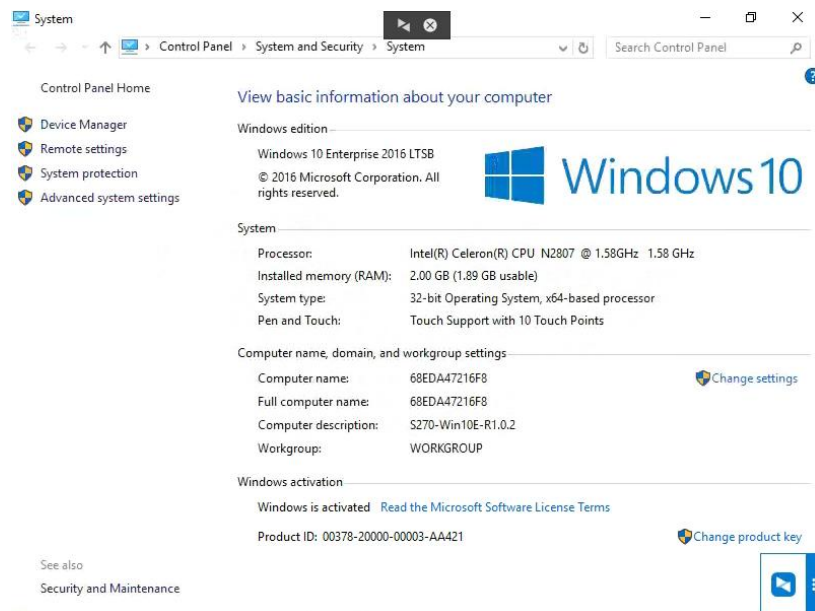

Figure 7.2.7
(7) A dialog will pop up as shown in Figure 7.2.7; record the full computer name "68EDA47216F8".